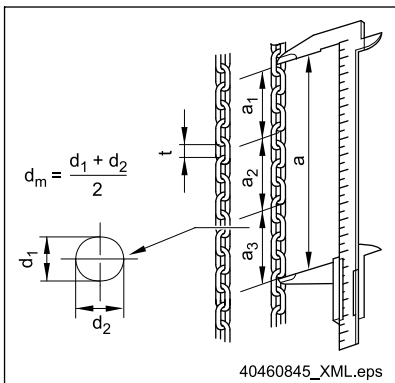

Fig. 45
- on 11 chain links ⇒ Fig. 45, Page 75.